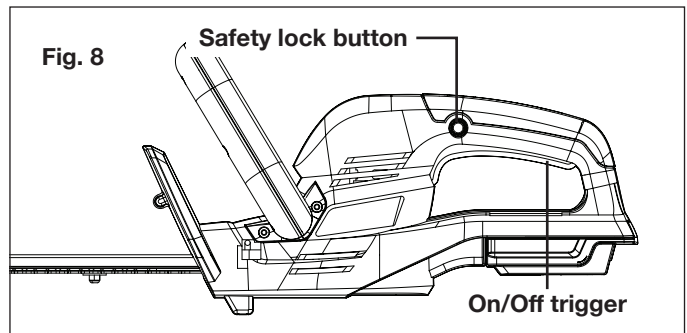

Fig. 8
2. To start the tool, press and hold the safety lock button, then squeeze the On/Off trigger. Once the tool is running, you can release the lock button (Fig. 8).
3. To turn the tool OFF, release the On/Off trigger and the safety lock button (Fig. 8).